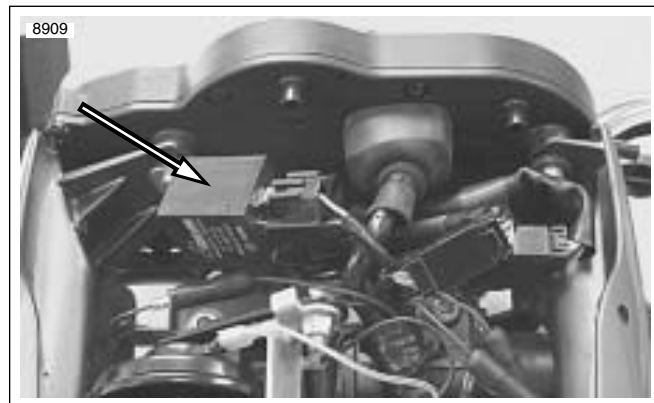

Figure 7-58. Turn Signal Flasher
3. See Figure 7-58. Detach 3-place connector [30] from flasher body.
1. See Figure 7-58. Attach 3-place connector [30] to flasher.